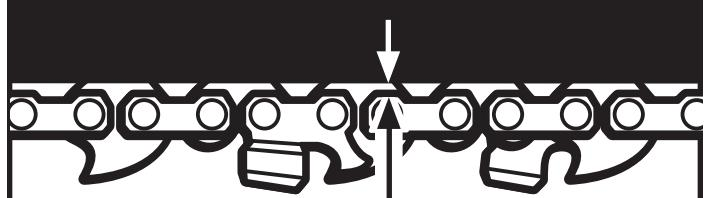

Fig. 12
- During normal operation, the temperature of the chain will increase. The drive links of a correctly tensioned warm chain will hang approximately .050 in. out of the bar groove, as shown in fig. 12.